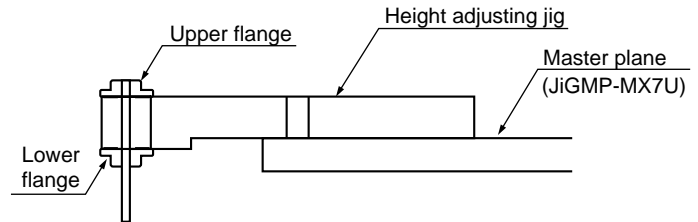
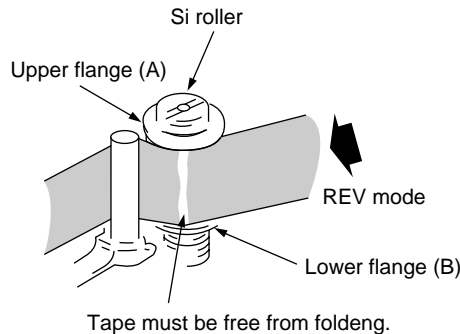

Figure 3
Figure 4
- (2) Adjusting the Si roller
- 2 Ascertain that the tape is not folded on the lower flange (B) of Si roller. (Figure 4)
<p>(3). STOP mode (See Figure 3)</p> <p>In the STOP mode the S and T pole bases are pressed in the STOP position (or Rec Lock position in CAMERA mode), and the S brake is in contact with the S reel disk.</p>  <p style="text-align: center;">STOP mode Figure 3</p>	<p>(4). PB mode (See Figure 4)</p> <p>In this mode, it is positioned for the playback, record and so on. It is the mechanical position where the pinch roller is pressed against the capstan shaft to make the pinch-pressing spring the most longest.</p>  <p style="text-align: center;">PB mode Figure 4</p>